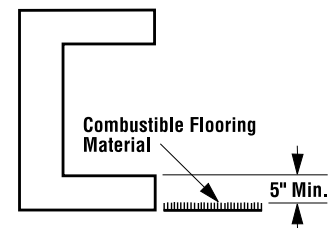

Figure 6
Step 5. Floor clearance: If combustible flooring materials, such as carpeting or asphalt tile, are to be located within 14" of the fireplace or firebox opening, the appliance base must be at least 5" above the combustible flooring material (Figure 6).